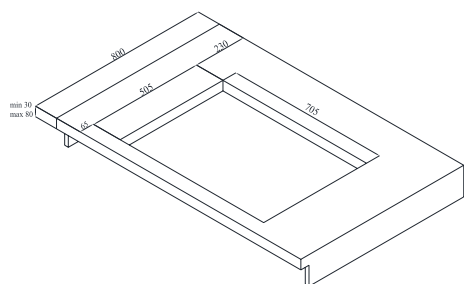

Fig. 24
5. ➤ Prepare the mount surface in align with the dimensions specified in the technical illustration (Fig. 24).
Observe the warnings regarding preparing the kitchen counter (Fig. 24).